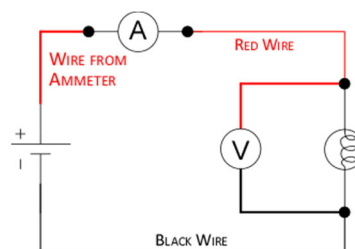

Figure 2b: Bulb circuit with meters
- Connect the ammeter:* You will first connect the **ammeter** to measure the current through the bulb. **Turn the voltage off** by turning the power supply knob counterclockwise all the way and pressing the button. Disconnect the wire from the + terminal of the power supply (**Figure 2b**) and insert it in the "COM" port of the ammeter; the free end of the wire previously inserted in the "A" port of the ammeter is then connected to the power supply to complete the circuit. Set the ammeter to '2' DCA. (Keep the power supply turned off!)
- Connect the voltmeter:* Next you will connect the **voltmeter** to measure the voltage across the bulb. Plug the red and black wires from the voltmeter into the connectors on both sides of the bulb as shown in **Figure 2b** – don't remove the wires connected to the bulb. Set the voltmeter to '200' DCV. (The power supply is still off!). Sketch this completed circuit in your journal.
- With the bulb still connected to the circuit (**Figure 2b**), adjust the power supply so that the reading on the voltmeter is 7.0 V (the maximum you will use). Measure and record the current on the ammeter in your journal and on Excel.
- Your circuit now has the resistor connected in place of the bulb. Draw a new circuit diagram like Figure 2b, using the resistor symbol from Table 1.
- Draw a new circuit diagram like **Figure 2b**, using the LED symbol from *Table 1*.